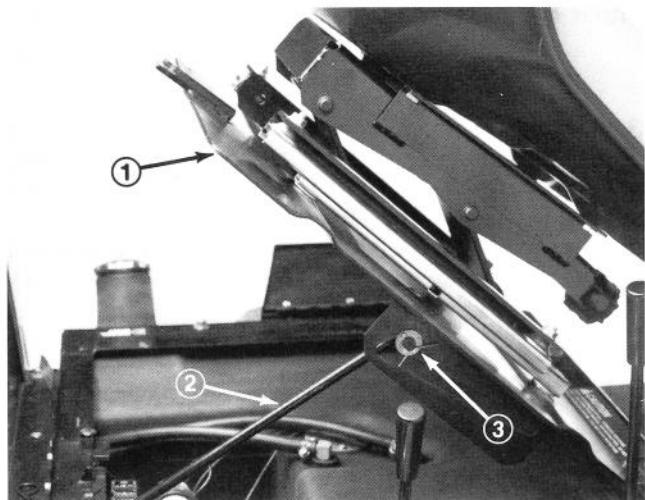

Figure 5
**Note:** To secure traction unit mounting plate in an upright position the support rod must be snapped into the indent (Fig. 5).